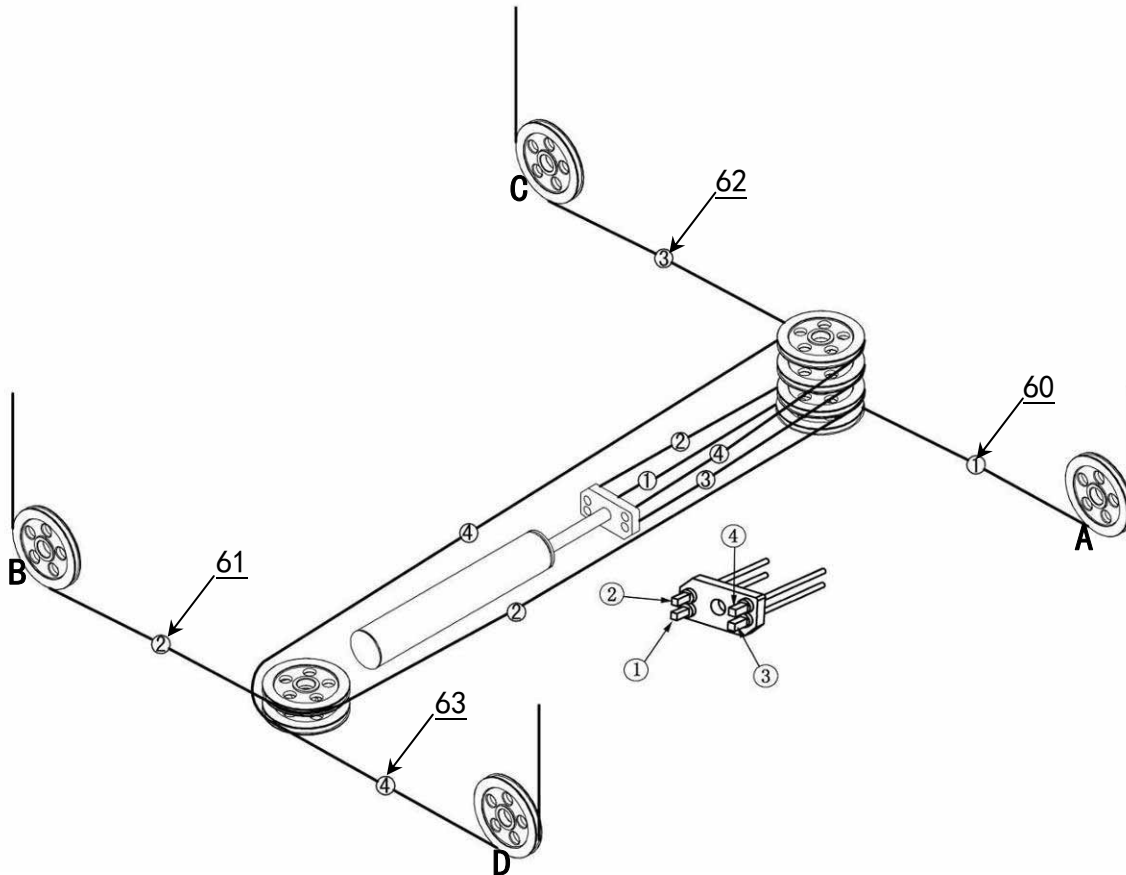

Fig. 21
J. Install the Steel Wire Cables (See Fig. 21).